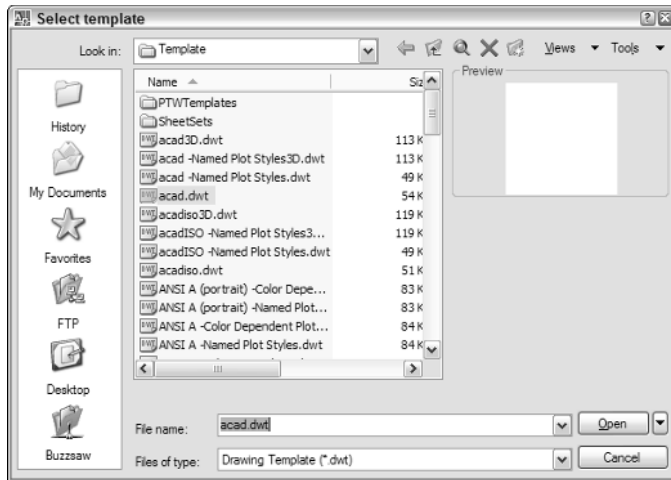

Figure 3-2:
5. Select the acad.dwt template, as shown in Figure 3-2, and click the Open button. (For AutoCAD LT, select acadlt.dwt.)